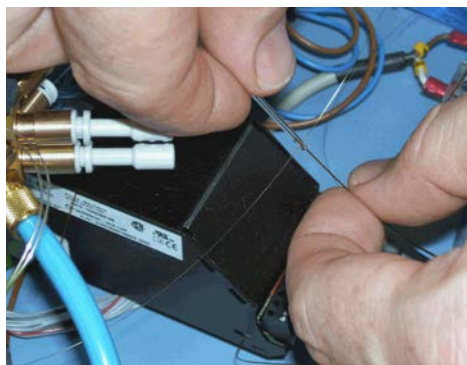

Figure 8-16. Cutting sample transfer capillary to IRMS
2. Cut the sample capillary that connects the water trap 2 to the sample open split (see Figure 9-46 on page 9-39). Use a press-fit to connect the 0.32 mm ID fused silica capillary to the water trap 2. See Figure 8-16.